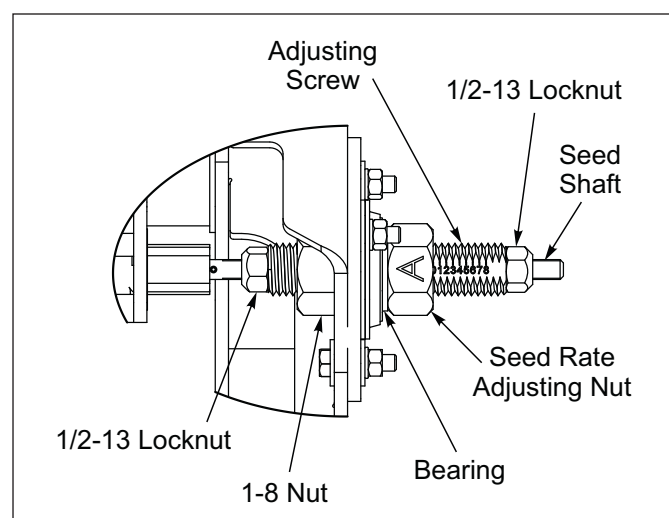

Figure 2-57: Rear Box Seed Rate Adjuster
25. Assemble onto the Rear Seed Box Seed Shaft the Seed Rate Adjusting Screw, 1-8 Nut, Bearing, Seed Rate Adjusting Nut and 1/2-13 Locknut. Place Bearing between Flangettes and attach to Bearing Carrier with 5/16-18 x 1 Bolts, Lock Washers and Nuts. **See Figures 2-57 and and 2-58.**